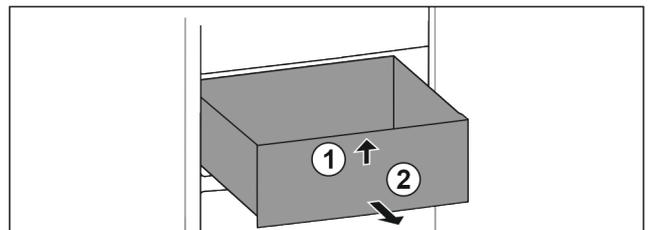

Fig. 23
- ▶ Lift up drawer at the front. Fig. 23 (1)
- ▶ Remove drawer to the front. Fig. 23 (2)